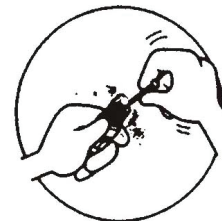

Figure 41
3.3 Check the spark plug, if the insulator is broken, have the spark plug replaced. Do away with carbon fouling around the spark plug with a metal brush. (Figure 41)